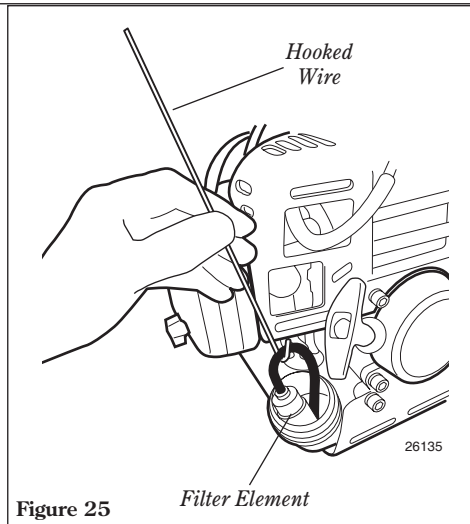

Figure 25
- Use a hooked wire to extract the fuel filter from inside the fuel tank. Remove and replace the filter element. Before reinstalling the filter element, inspect the condition of all the fuel system components (fuel pick-up line, fuel return line, tank vent, fuel cap and fuel tank). If damage, splitting or deterioration are noted, the unit should be removed from service until it can be inspected or repaired by a Shindaiwa-trained service technician. See Figure 25.